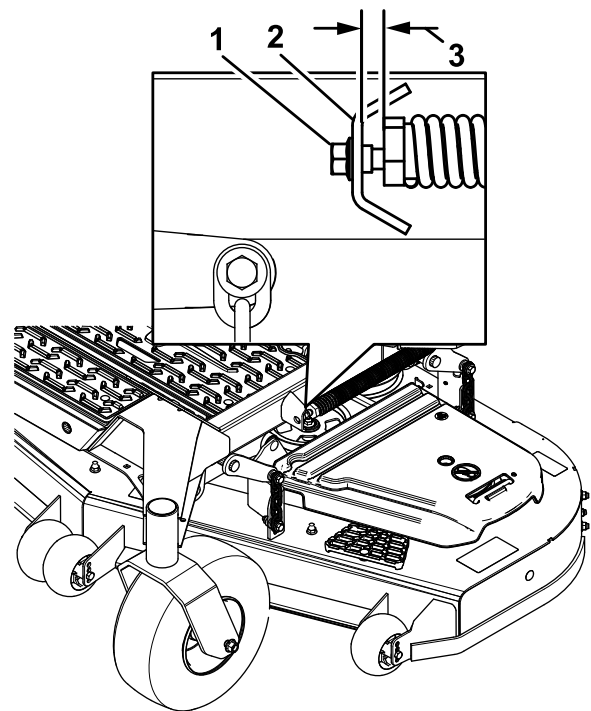

Figure 90
10. Slowly loosen the adjusting screw on the lift-assist spring until you can remove the screw (Figure 90).